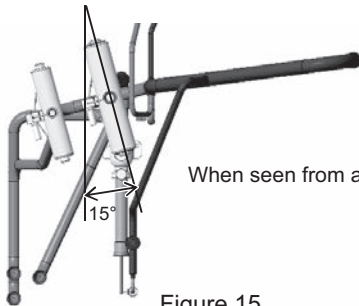

Figure 15
- (15A) Mount a new four-way valve (21S4a). Figure 15 shows how to position a new four-way valve.